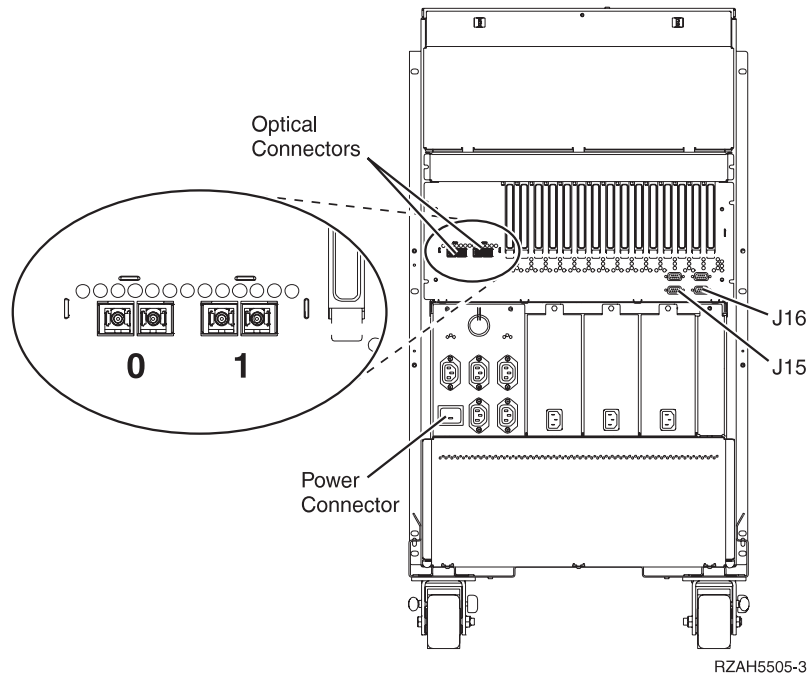

Figure 8. 5065 connector locations
- ___ 7. Refer to Figure 8 on page 9 and install the SPCN cable (PN 21F9469) by performing the following steps: